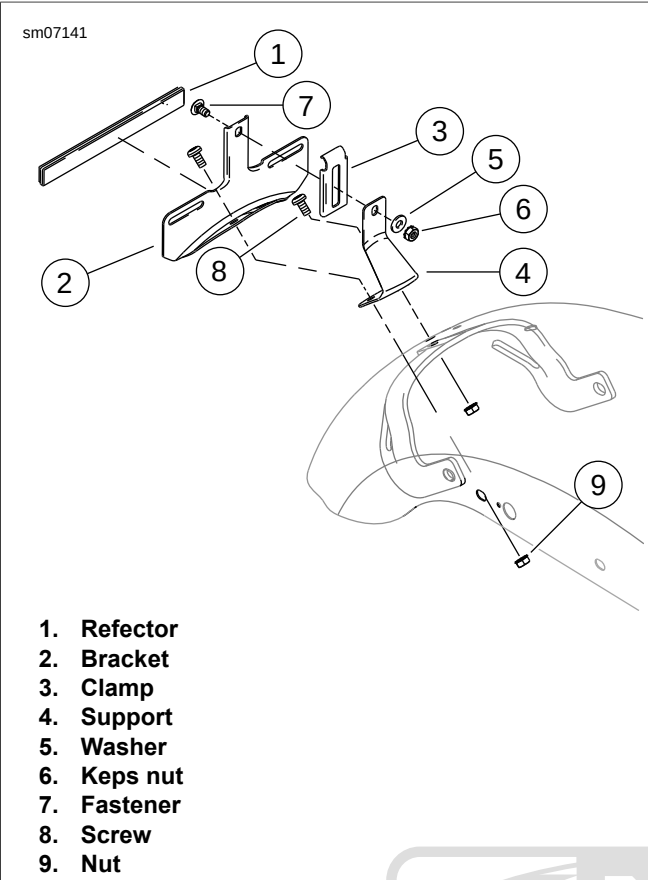

Figure 2-205. License Plate Bracket: XL Models except XL 883N, XL 1200X/C/CP
1. See Figure 2-205. Loosen the keps nut and remove the license plate.